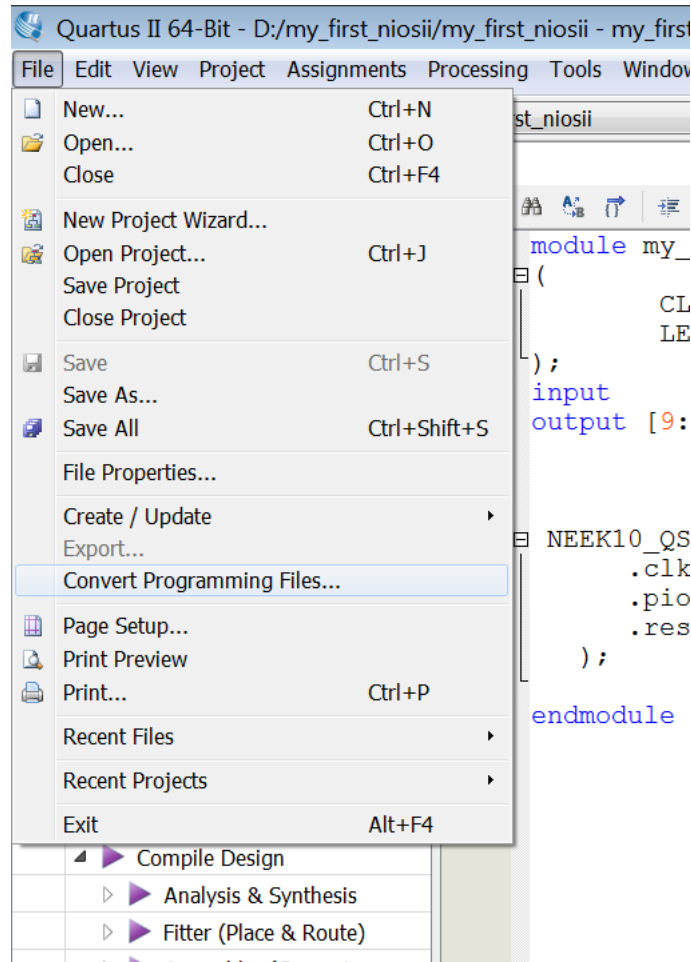

Figure 3-12 Open the programming file to be converted
1. Click **File->Convert Programming Files** in Quartus II, as shown in **Figure 3-12**.